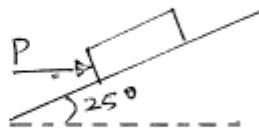

Fig. 5. Q.3(a)
- Q.3** (a) A block of mass 100 kg is placed on an incline as shown in Fig.5. If $\mu_s = 0.35$ and $\mu_r = 0.25$, determine the magnitude of horizontal force P, required to start the block to move up the plane. **07**